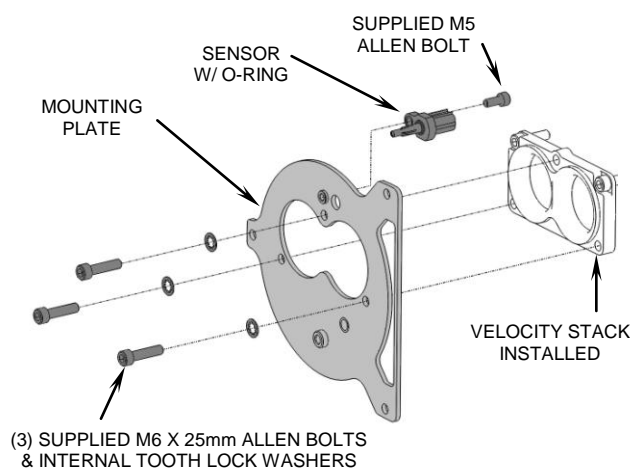

FIGURE 3
3. Once the air box has been removed, unscrew the air temperature sensor and install it into the supplied mounting plate using the supplied M5 bolt, refer to Figure 3. **NOTE:** Make sure the small stock o-ring around the sensor is still intact.
7. Position the mounting plate over the velocity stack (with the welded tube toward inside) and secure using (3) supplied M6 x 25mm buttonhead bolts and (3) internal tooth lock washers, finger tighten only, Figure 3.